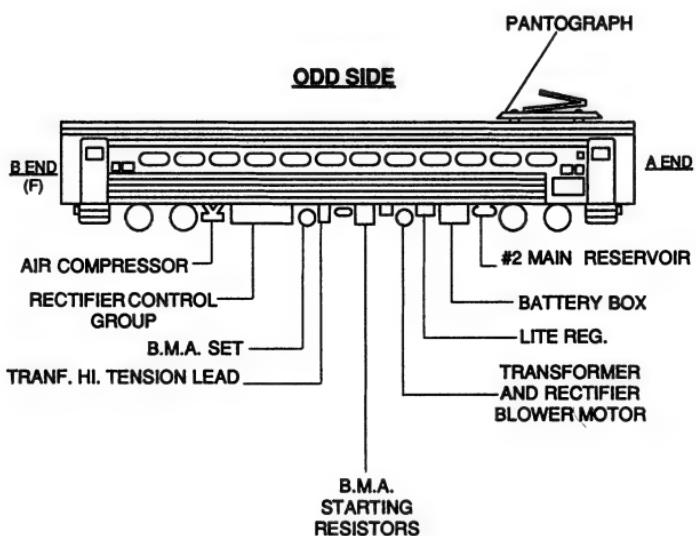

Figure 1-3: Car General Arrangement
1-1.03 CAR ORIENTATION (Figures 1-3, 1-4, 1-5, & 1-6)
3. Side vestibule doors are numbered (Figures 1-3 & 1-4):